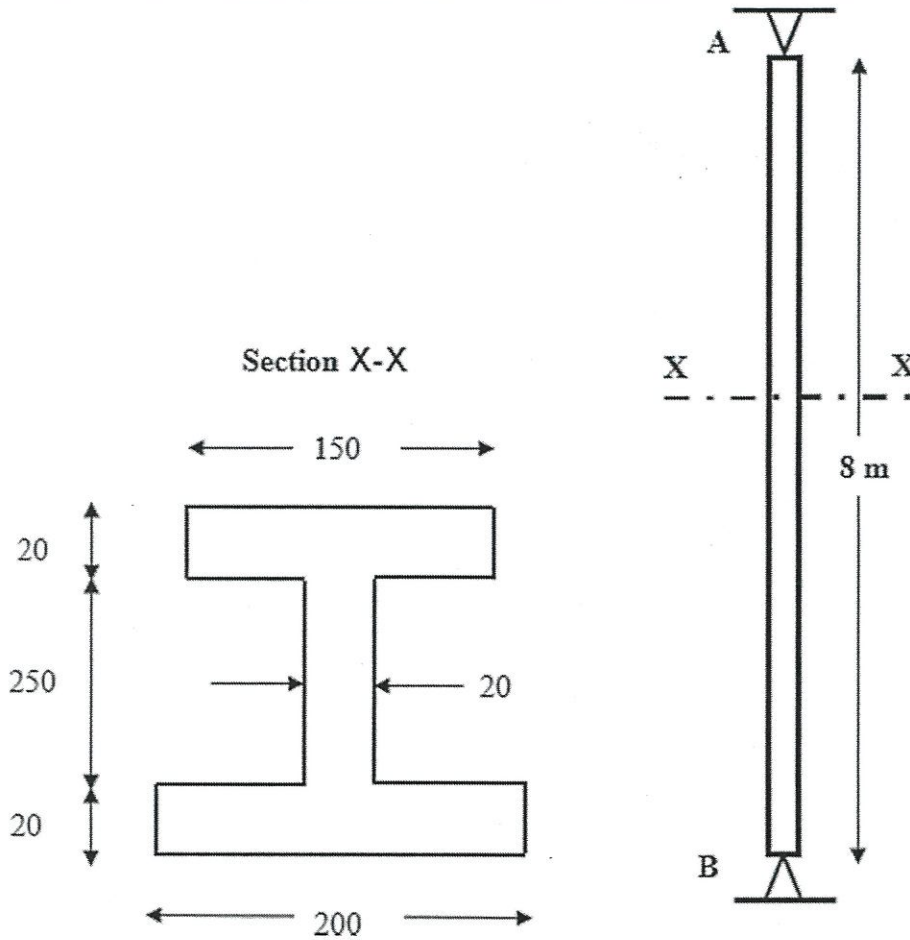
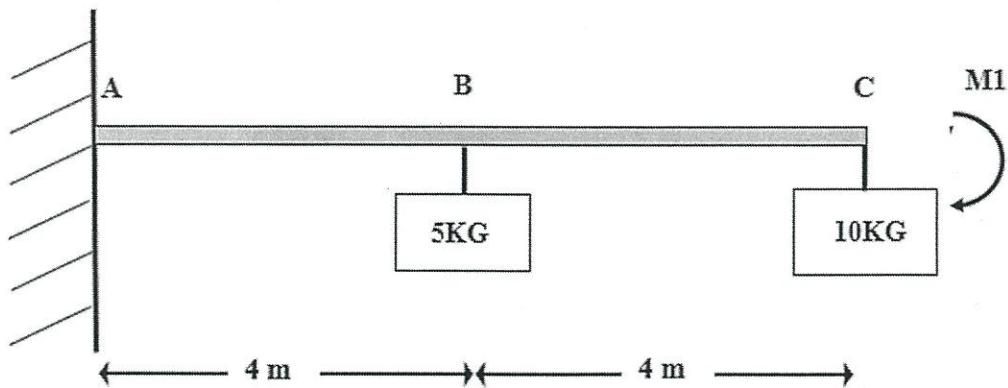

Figure Q2: Pin-pin aluminium column
Figure Q3(a): Cantilever beam
- (b)** **Figure Q2** shows a pin-pin aluminium column with length of 8m and cross-section of column, respectively.
- Q3** (a) Describe and draw **THREE (3)** common types of elements used in finite element method. (6 marks)
- (b) **Figure Q3(a)** shows a cantilever beam attached with 5kg and 10kg steel buckets at point B and C, respectively. Meanwhile, there is moment, M_1 with 20kNm acting at point C. Determine the internal forces and the deflections of the cantilever beam using flexibility method (assume gravity acceleration is 10 m/s^2 and EI is constant). (19 marks)